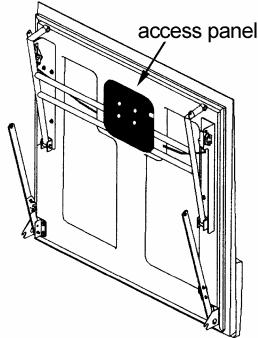

FIGURE 17
1. Remove the access panel retaining bolts and take away the access panel to the handle mechanism (figure 17).